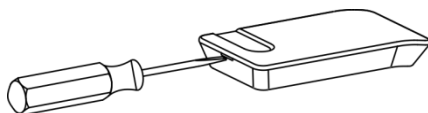
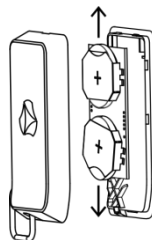

Fig. 4. How to open the case.
Fig. 5. Replacing batteries.
- 4. Battery installation.** When the empty battery symbol (Fig. 3) appears on the keypad display next to the AVA KEY icon, the batteries need replacement. To do this, place a flat screwdriver in the place shown in Fig. 4 and gently pry the housing apart. Repeat this action in several spots on the opening line until the case is entirely separated. Then, the PCB plate shall be removed, the spent batteries shall be pushed out in the directions shown in Figure 5, insert new batteries (with the + up), place the plate on the rear portion of the device and close the case